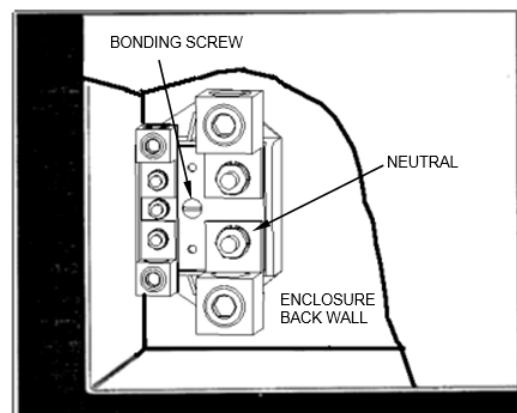

Figure 2 – Typical installation of TNI65C Neutral Kit
Step 2. Mounting neutral block to enclosure as shown in Figure 2. Torque fasteners to 20-24 in-lbs.
Step 4. Install bonding screw as shown in Figure 2 (if required). Torque fasteners to 20-24 in-lbs. Note: the tapped hole in type 3R enclosures is covered with a plastic disc. It is not necessary to remove the disc. The bonding screw will penetrate the disc.